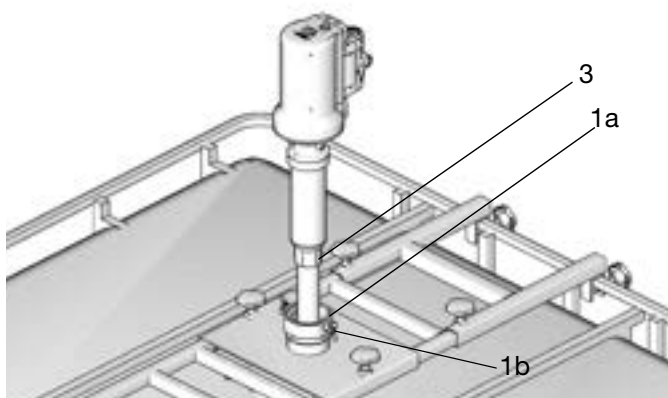

FIG. 11
The BSPP models are designed to seal with the pump inlet filter and do not require thread sealant. For these models install the suction tube/hose (3) into the pump (1) inlet housing (FIG. 11).
3. Insert the pump suction tube (3) through the bung adapter (1a) and into tank (FIG. 11). Secure the pump in place by tightening the gasket screws (1b) (FIG. 11).